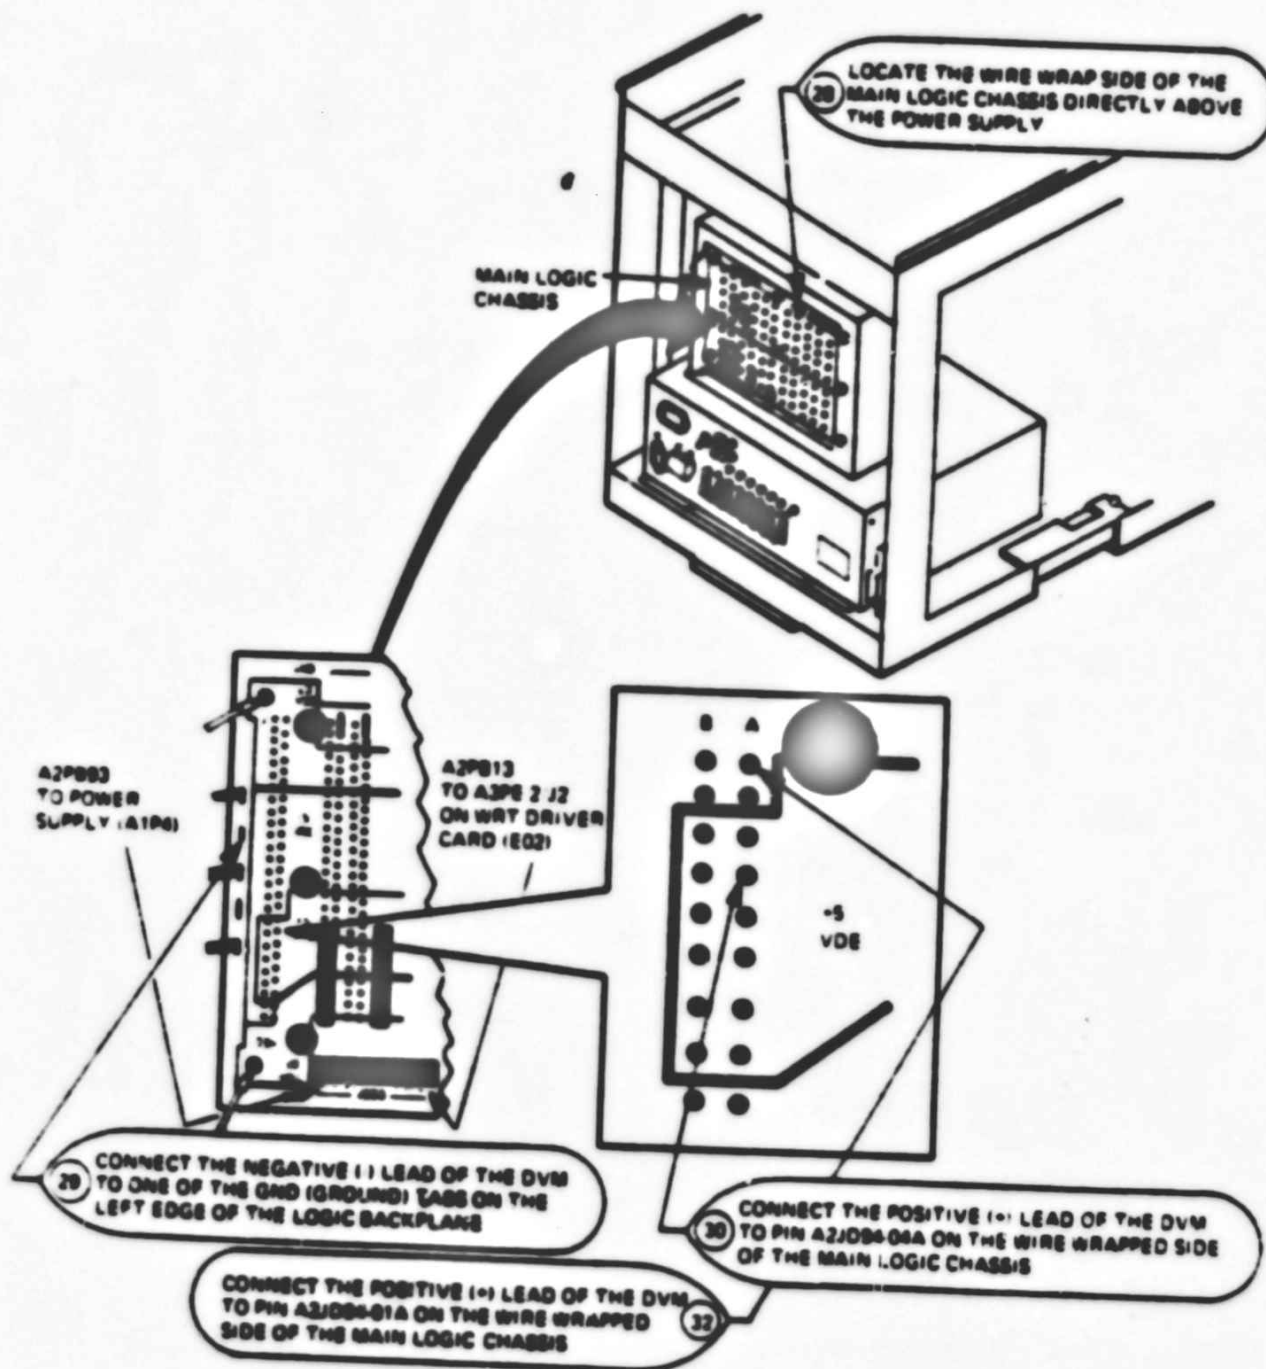

FIGURE 13 RM05 MAIN LOGIC CHASSIS (WIRE-WAPPED SIDE)
28. Locate the wire-wrapped side of the main logic chassis directly above the power supply. (See Figure 13)
29. Connect the negative (-) DVM lead to one of the GND (ground) tabs on the left edge of the wire-wrapped side of the main logic chassis. (See Figure 13)
30. Connect the positive (+) DVM lead to Pin A2JD94-04A on the wire wrapped side of the main logic chassis. (See Figure 13)
32. Connect the positive DVM lead to Pin A2JD94-01A on the wire wrapped side of the logic chassis. (See Figure 13)